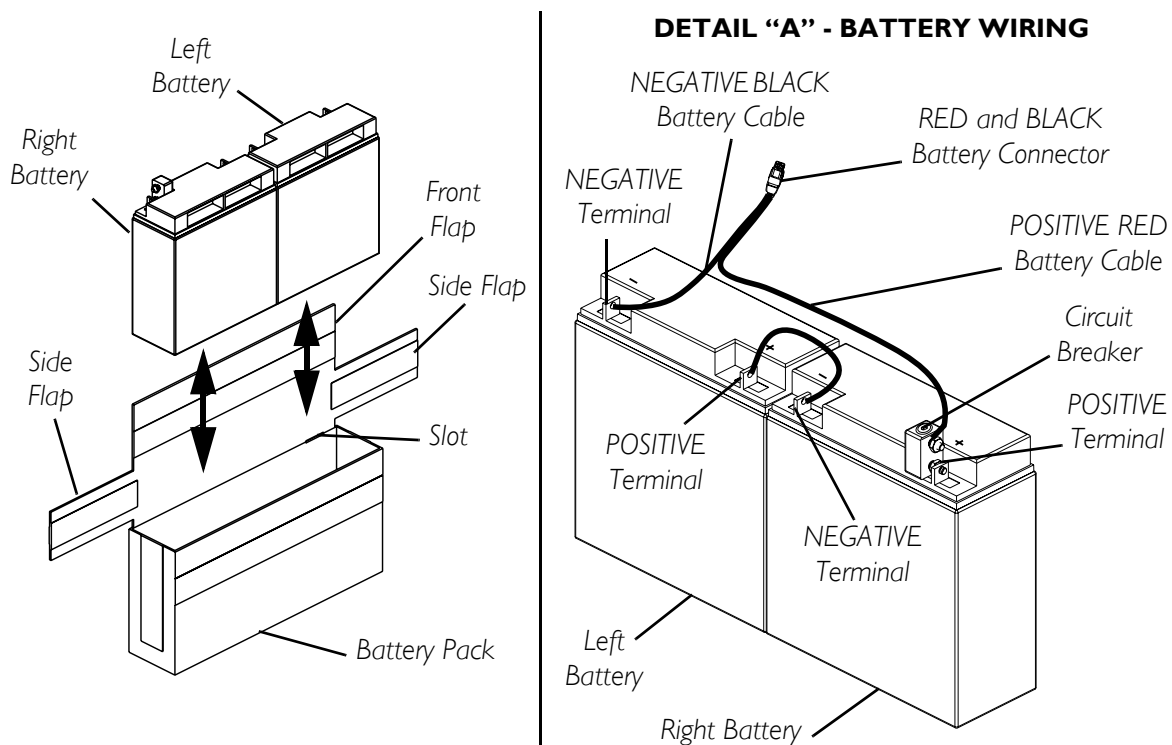

FIGURE 8.3 - REMOVING/INSTALLING THE BATTERIES FROM/INTO THE BATTERY PACK
NOTE: For this procedure, refer to FIGURE 8.3.
1. Install the batteries into the battery pack in the orientation shown in FIGURE 8.3.